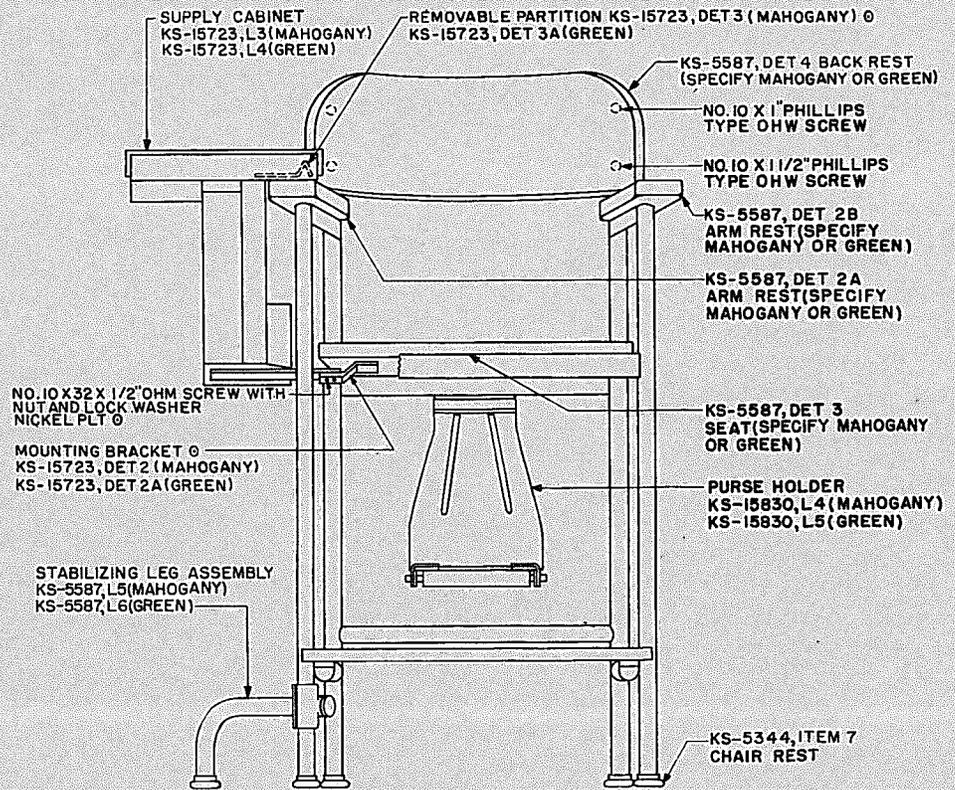

Fig. 9 - Piece-part Information for KS-5587-type, 25-inch Supervisor Chairs (Illustrated) and 33-inch Supervisor Chairs
- (c) To change Fig. 9 to add list numbers to the supply cabinet code number; to add a removable partition KS-15723, Det 3 to the supply cabinet; and to make other changes of a minor nature.